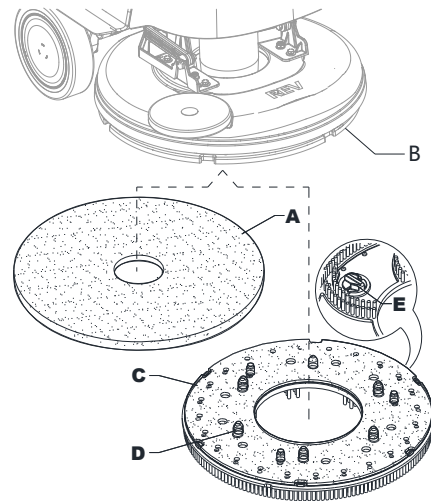

Figure 5
1. Make sure that the REV deck (41) is lifted.
2. Turn off the machine with the start/stop button (62) .
3. According to the kind of cleaning to be performed, install the pad (A, Fig. 5) or the brush (C, optional) and note the following:
- Place the pad (A) under the deck and press it until it is fastened with the Velcro of the drive disc (B).
- Place the brush (C, optional) under the deck, and then match the centering pins (D) to the respective holes of the drive disc (B), and then engage the brush with the three mounting screws (E).